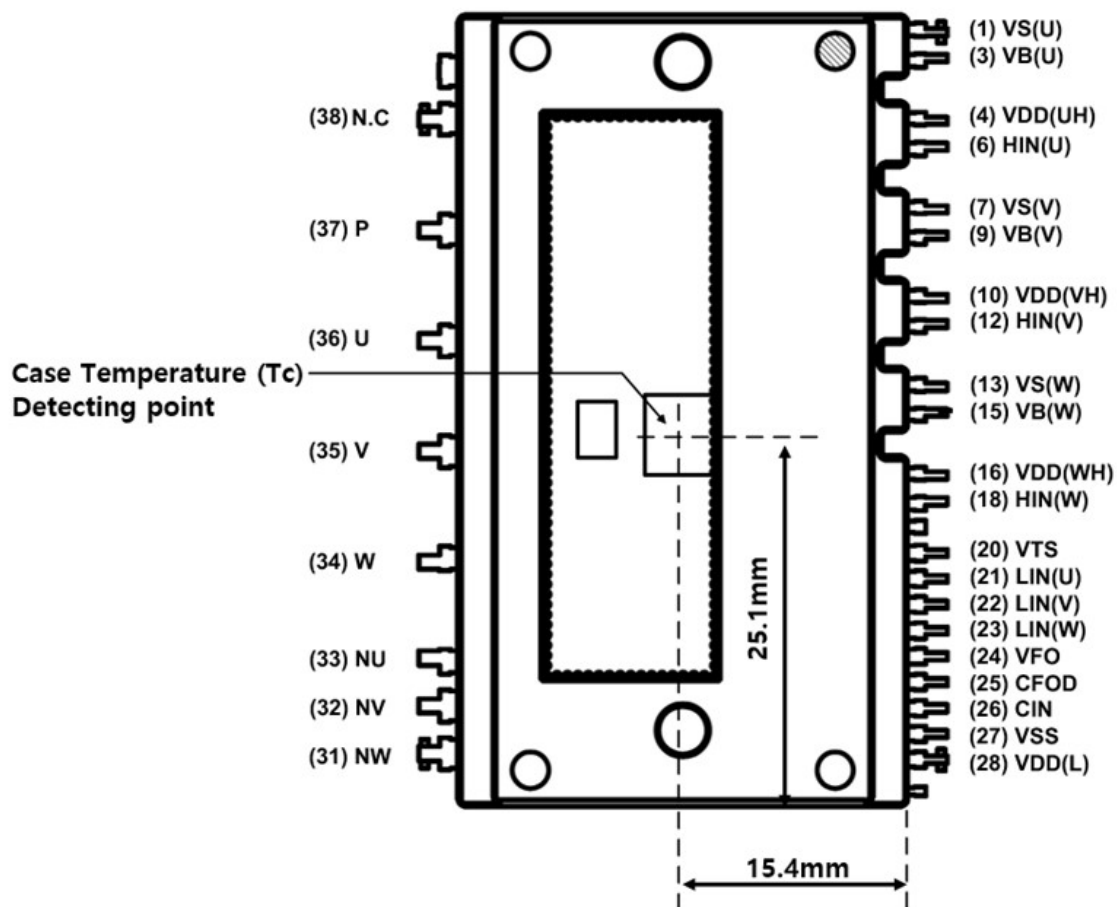

Figure 1. Pin Configuration - Top View
3. For the measurement point of case temperature (Tc), please refer to Figure 1.